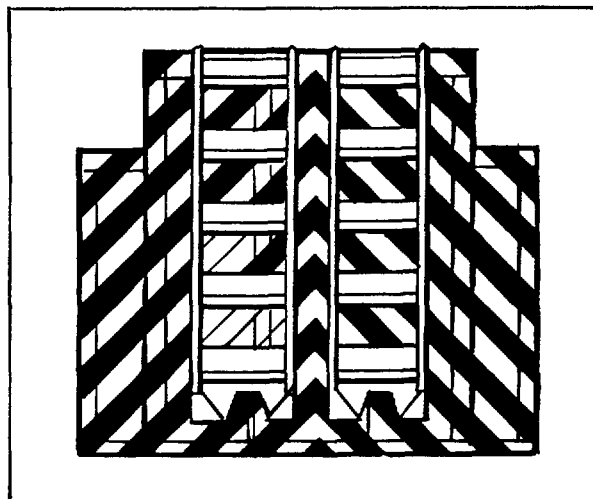

Figure 15. Safety marking calibration liftgate.
c. When authorized by the responsible commander, stripes of a contrasting color may be applied to certain vehicles, Figure 15, and equipment used in a nontactical area, that because of size, construction or function, presents a possible hazard. These stripes are applied to permit vehicles to be more readily seen by drivers of other vehicles. They are normally applied to the rear of such vehicles; they may, however, be also applied to the front or certain side surfaces if required.
(1) The stripes will be applied across the face of the bumper, or across the width of the vehicle on a flat surface above the bumper in a band not to exceed two feet in height. Other appropriate surfaces may be utilized when necessary.
(2) Width of the stripes will be 4 inches with a 4 inch space between stripes. They will be inclined at a 45' angle in opposite directions from the center line of the vehicle to form an inverted V pattern.
(3) Reflective red and white adhesive-backed stripes conforming to Federal Specification LS-300 will be utilized.
(4) Gloss black 17038 will be used for stripes on vehicles painted yellow or other light color.